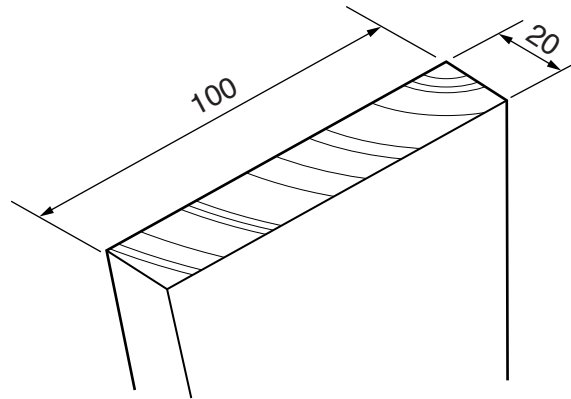

Fig. 9
- (d) Fig. 9 shows details of the end of the leg.
- (ii) Draw on Fig. 9 to show the marking out with measurements for **two** holes to take the dowels. [2]